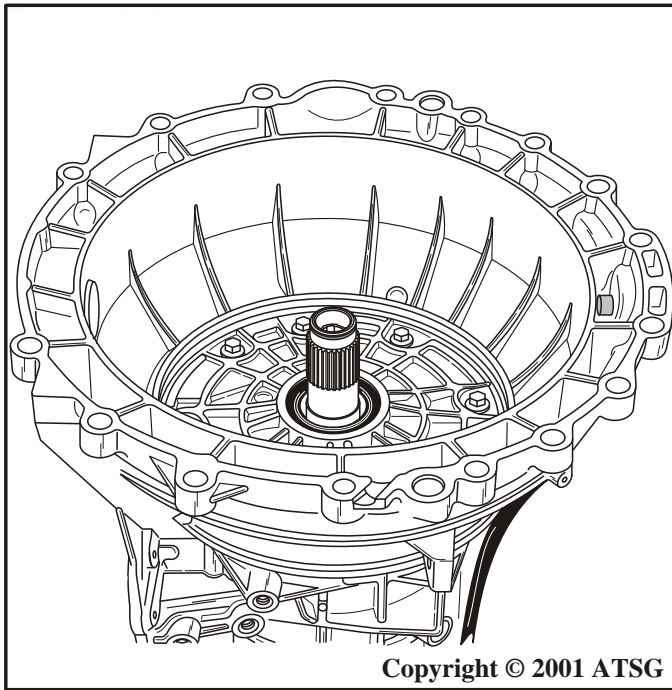

Figure 36
33. Rotate the transmission in bench fixture so that the pump is facing up, as shown in Figure 36.